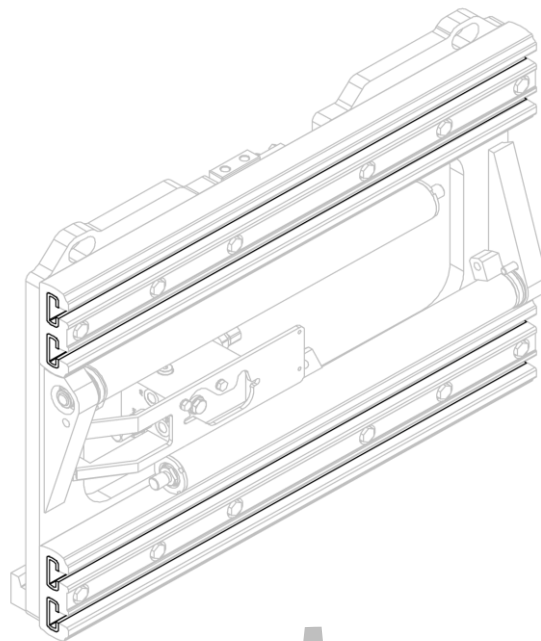
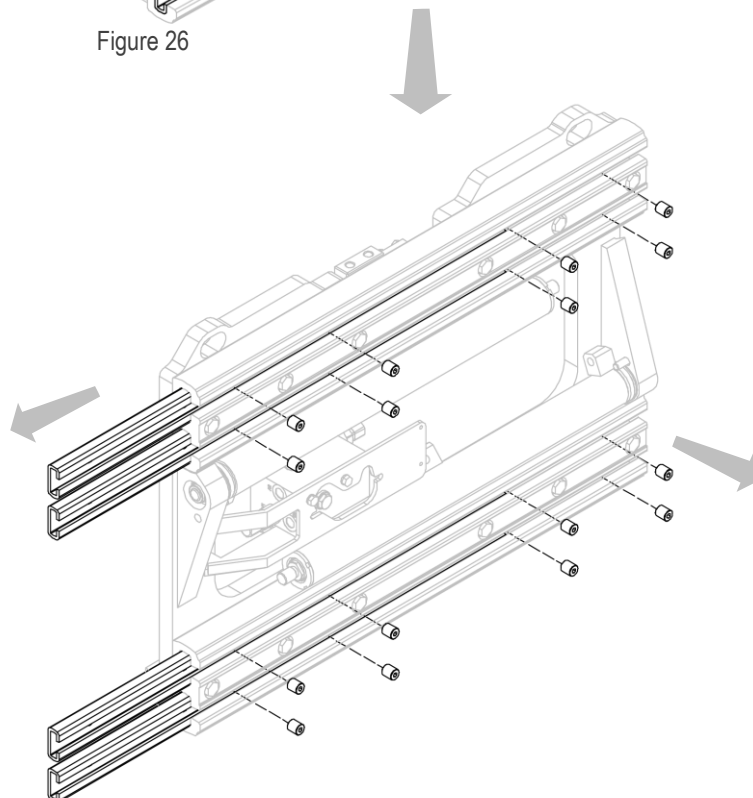

Figure 26
Figure 27
3. Remove the nylon bushes after unscrewing the corresponding grub screws (see *Figure 26* and *Figure 27*).